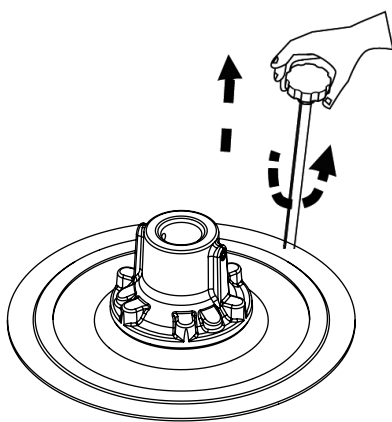

Fig. 5
1. Unscrew the follower plate air bleeder (fig. 5).